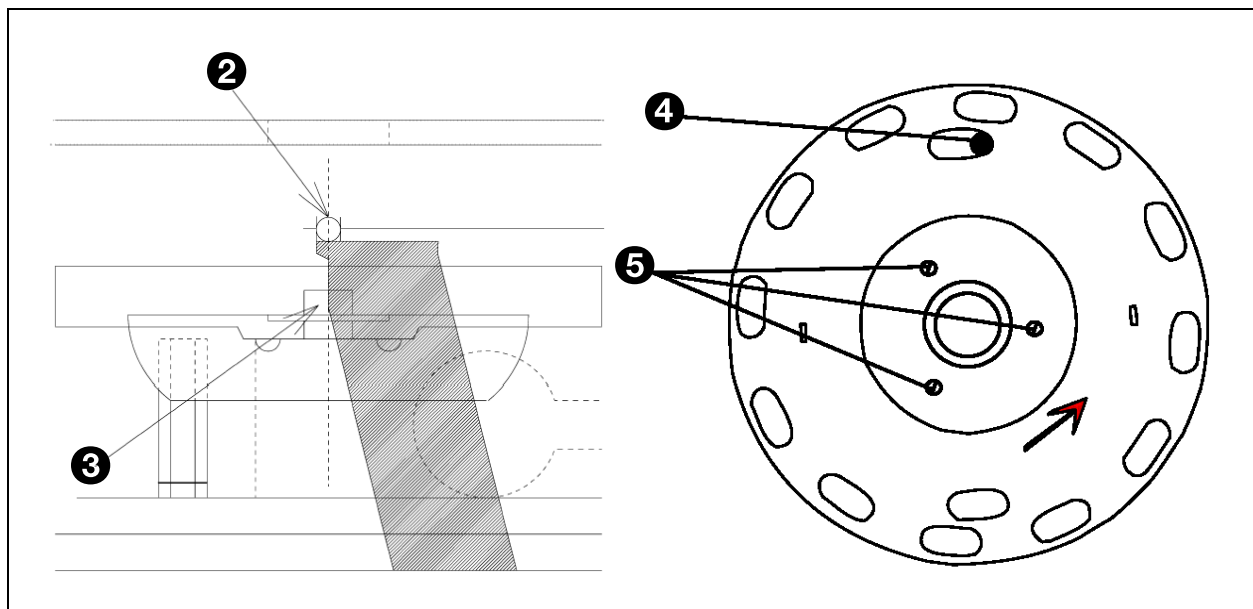

Fig. 139 - Adjustment of the Main timing disk
1. Place the loadcell carrier "0" in a position where the first attachment point (2) of the white tape is above the loadcell (3). See fig. 139.
2. Loosen the bolts (5) and turn the Main timing disk until the roller sensor (4) is just activated.
***TAKE NOTE OF THE DIRECTION OF ROTATION (see the arrow in fig. 139.)***